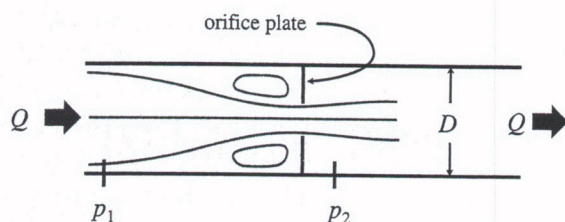

Figure 9.55
43. An orifice meter (see Figure 9.55 and Glossary) is a device that is used to measure flow rates of liquids and gases. The flow in a pipe of inner diameter D is obstructed by a plate with an orifice of diameter D_0 . The flow streamlines contract from an upstream cross-sectional area of $\pi D^2/4$ to a jet of approximate cross-sectional area $\pi D_0^2/4$. The pressure in the pipe is measured upstream and slightly downstream of the orifice plate as shown in Figure 9.55. Show that the volumetric flow rate may be obtained from the following equation: